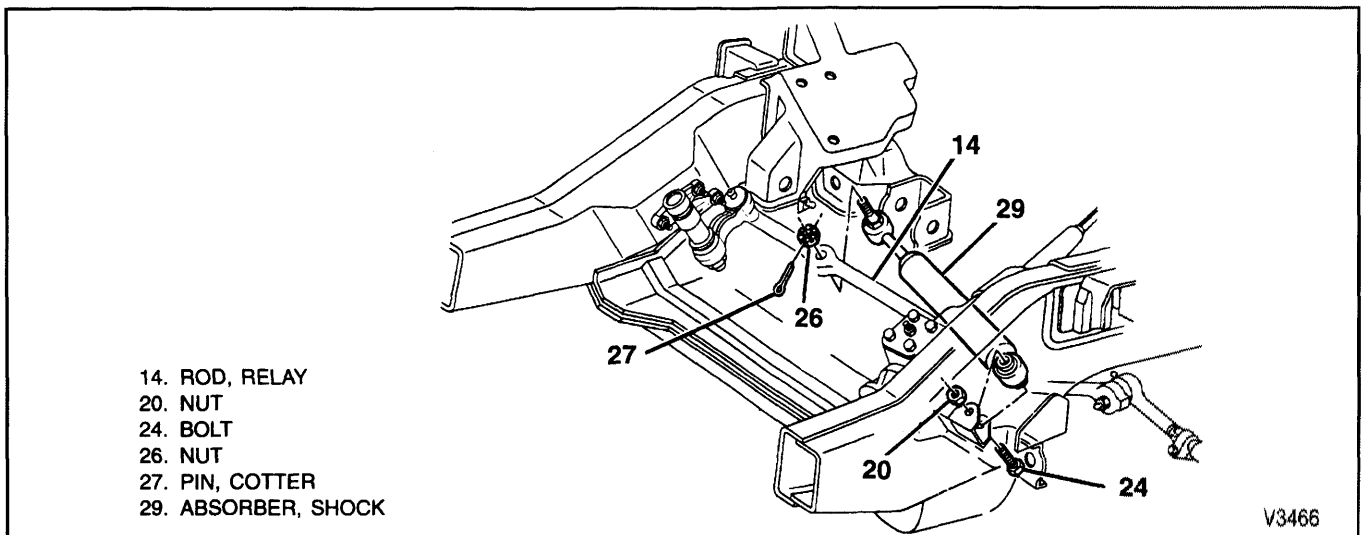

Figure 8—Steering Shock Absorber—K-Models
**Inspect (Figures 8 and 9)**
STEERING SHOCK ABSORBER REPLACEMENT**FOUR WHEEL DRIVE (K MODELS)****Remove or Disconnect (Figure 8)**
- Relay rod cotter pin (27).
- Shock absorber lower ball stud nut (26).
- Shock absorber lower ball stud from the relay rod (14).
- Shock absorber mounting bolt nut (20).
- Mounting bolt (24).
- Shock absorber (29).
**Install or Connect (Figure 8)**
- Nut (20).
- Lower ball stud to the relay rod (14).